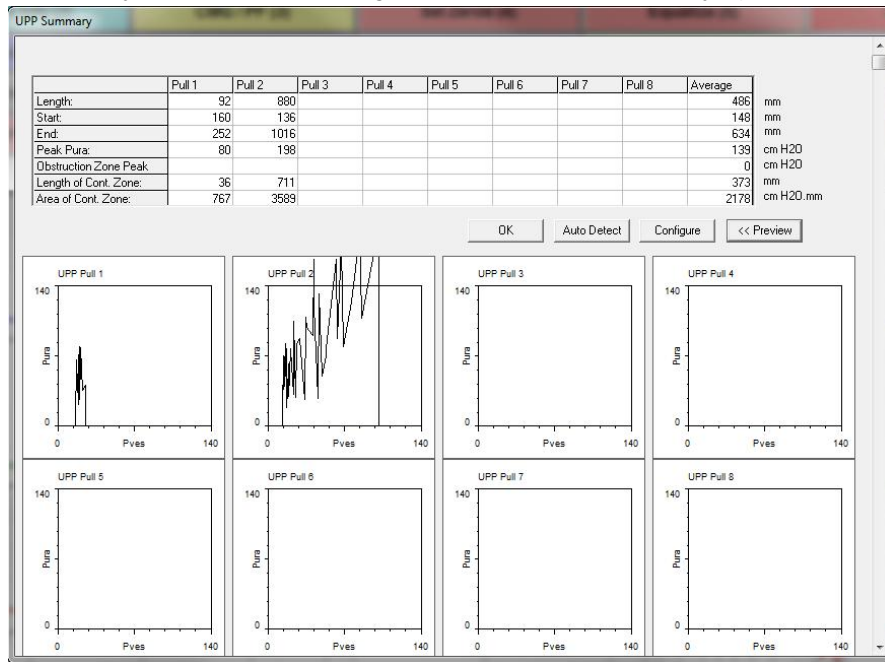

Figure 71: UPP Summary – UPP Plots
5. Click the **Preview** button to display the *UPP Plots* (Figure 71). Click **OK** to close the screen.